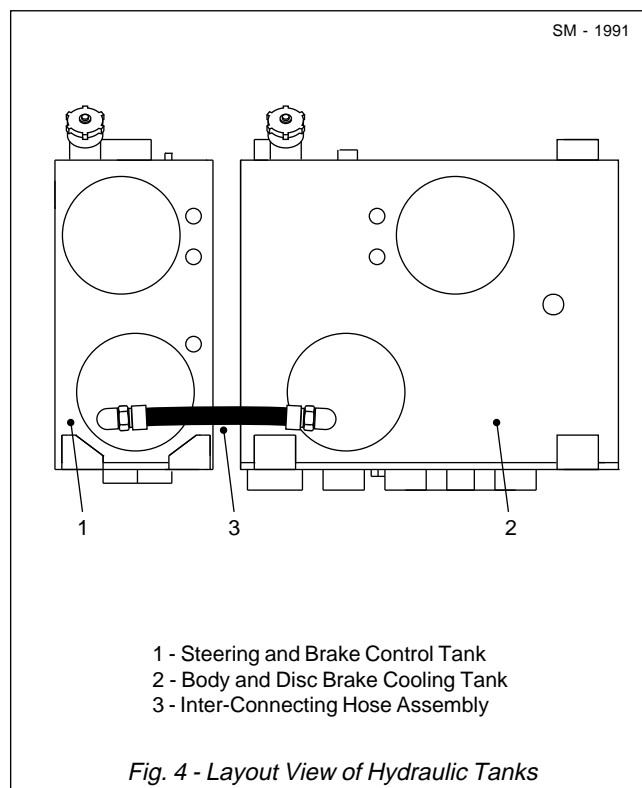

Fig. 4 - Layout View of Hydraulic Tanks
An inter-connecting hose assembly (3, Fig. 4) links the steering and brake control tank and the body and disc brake cooling tank. Refer to Section 230-0040, BODY AND DISC BRAKE COOLING TANK.
3. With suitable containers in position, remove drain plugs from tank (1) and body and disc brake cooling tank (2, Fig. 4) and drain the oil. Refer to Section 230-0040, BODY AND DISC BRAKE COOLING TANK. Reinstall drain plugs in tanks and tighten securely.
4. Remove bolts (7), lockwashers (8), access cover (5) and gasket (6) from tank (1). Discard gasket (6).
5. Remove wing nuts (14) from rods (13). Remove and discard filter assembly (10) and gasket (15) from tank (1).
6. Install new gasket (15) and filter assembly (10) in tank (1) and secure with wing nuts (14).
7. Install new gasket (6) and access cover (5) on tank (1) and secure with bolts (7) and lockwashers (8).
8. Fill tank (1) to correct level with hydraulic oil specified in Section 300-0020, LUBRICATION SYSTEM. Install filler cap (2).
4. If required, remove inter-connecting hose (3, Fig. 4) from access cover (4). Fit blanking caps and plugs to hydraulic line and tank port. Remove bolts (7), lockwashers (8), access cover (4) and gasket (6) from tank (1). Discard gasket (6).
5. Reach inside tank (1) and unscrew suction screen (11) by turning hex head at the neck of suction screen (11).
6. Clean suction screen (11) and tank (1) with paraffin and dry with compressed air. Inspect for damage and renew if necessary.
7. Install suction screen (11) in tank (1) and secure by turning on hex head at the neck of suction screen (11).
8. Install new gasket (6) and access cover (4) on tank (1) and secure with bolts (7) and lockwashers (8). Remove blanking cap and plug and install inter-connecting hose (3, Fig. 4).
9. Fill tank (1) to correct level with hydraulic oil specified in Section 300-0020, LUBRICATION SYSTEM. Install filler cap (2).
4. Ensure all hydraulic lines connected to tank (1) assembly are identified for ease of installation and, with suitable containers available to catch leakage, disconnect all hydraulic lines. Fit blanking caps and plugs to all hydraulic lines and tank ports.